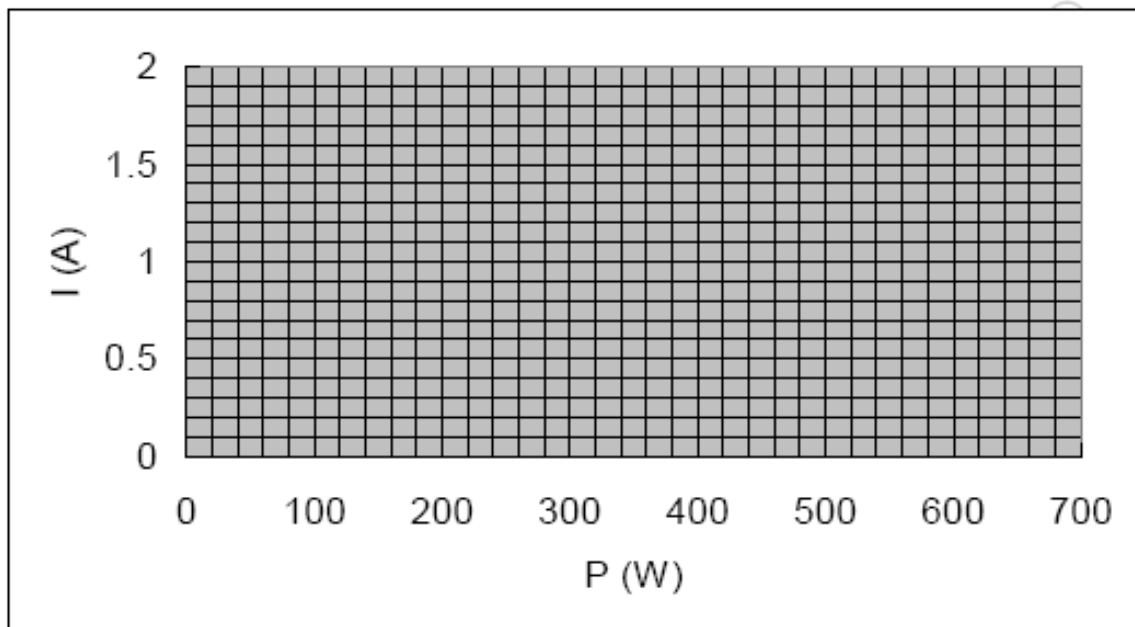

Fig. 12-6-4 The I vs P curve
10. Using the results of Table 12-6-1, plot the  $I$  vs  $P$  curve on the graph of Fig. 12-6-4.